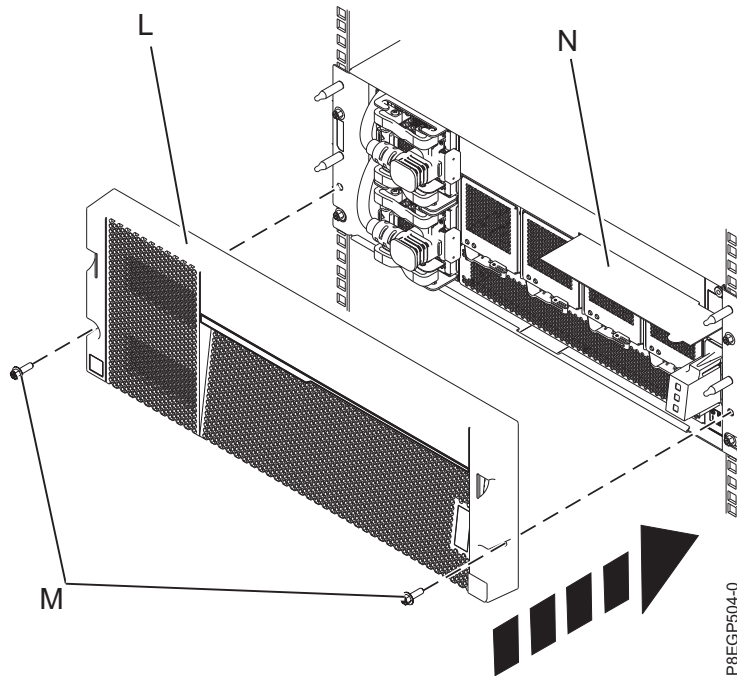

Figure 9. Installing the cover and service information card
- Install the cover **(L)** onto the drawer. Press the cover into place and secure it with two M5 screws **(M)** on the left and right rails. See Figure 9 on page 11.